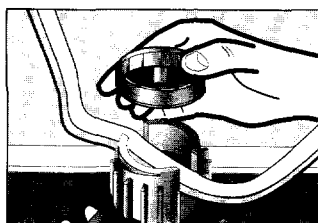

Figure 5
3. Screw cap tightly to make electrical connections. (see figure 5)